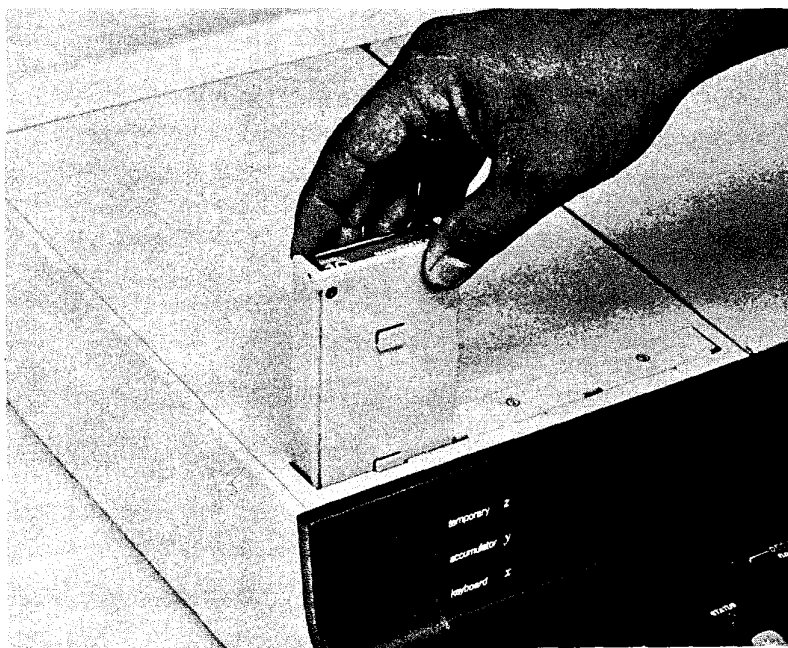

Figure 1. Math Block Installation
4. Position the Math ROM over ROM SLOT 1 (see Figure 1) such that the ROM label is readable from the front of your calculator. Push the ROM straight down into the slot until it is firmly seated.